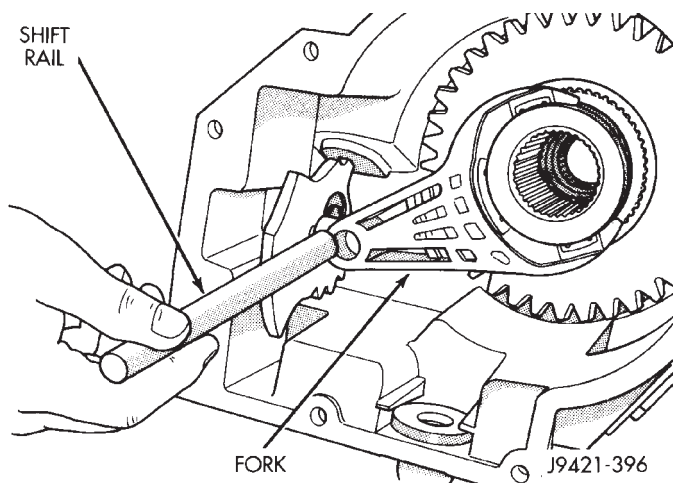

Fig. 33 Shift Rail Removal
(19) Remove shift rail by pulling it up and out of fork and case (Fig. 33).